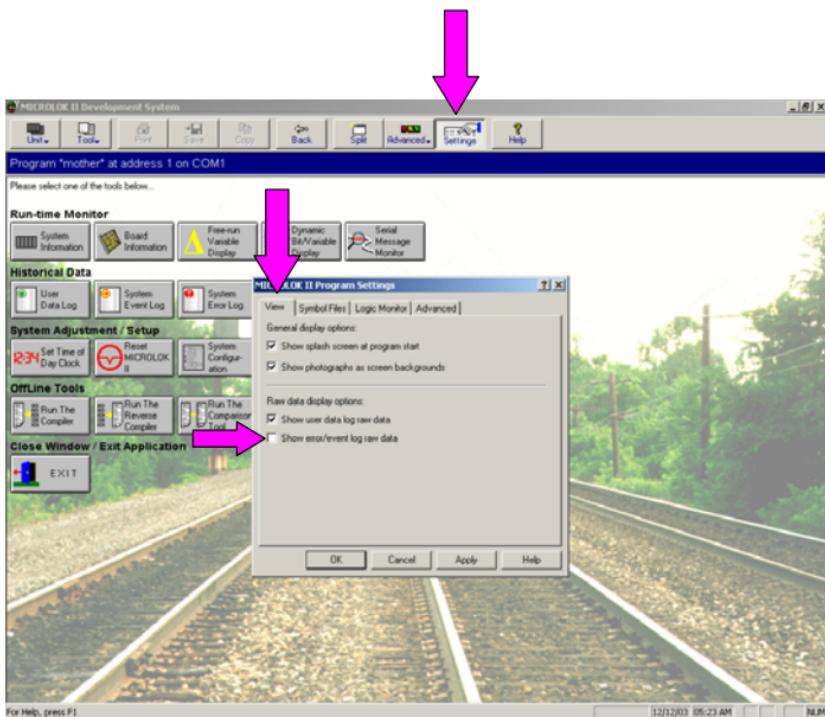

Figure 14-9. Program Settings Dialog Box View Tab
To show the user data log raw data press the "Program Settings" button on the main launch screen (See Figure 14-9) and go to the View property tab (the first and default tab). Under "Raw data display options," check "Show user data log raw data" by left clicking the checkbox with the mouse and then press the "OK" button to finalize the choice.
- Displaying codes – To display the Codes column on the Event and Error Log Views, go to the main menu and press the "Program Settings" button, now go to the View Property Page (See Figure 14-9).